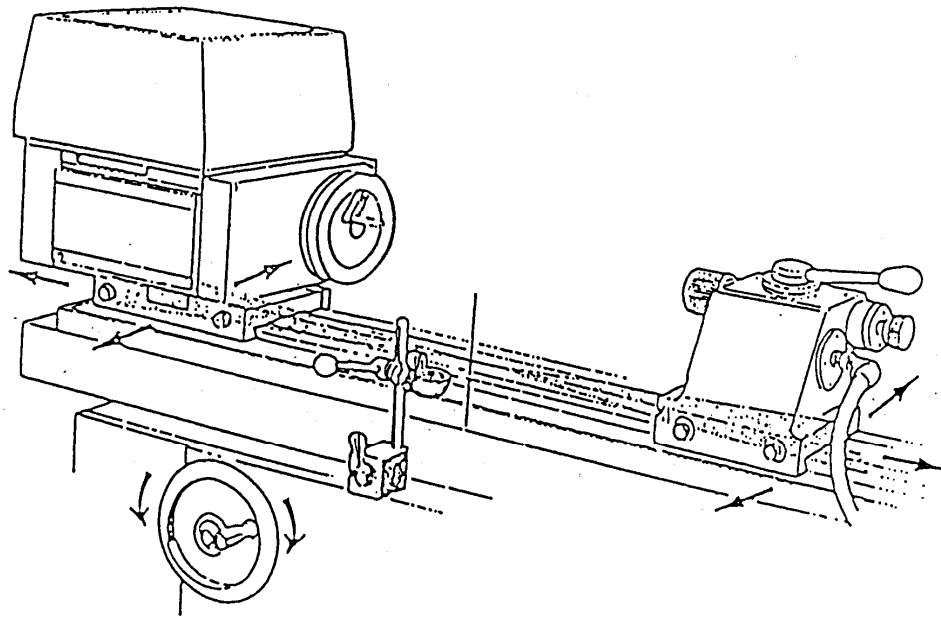

Fig. 12-1
A. Alignment of table (Fig. 12-1)